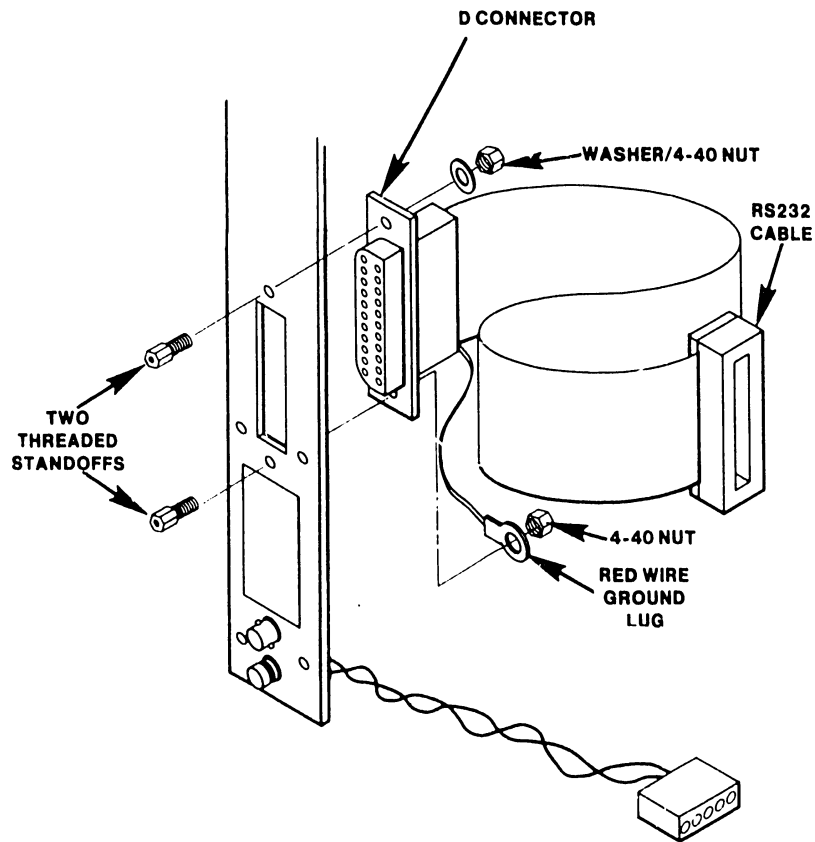

Figure 4-23 RS 232-C or RS-366 Interface Cable Installation (Installed from inner side of TC Rear Panel)
1. Position the TC rear panel as shown in Figure 4-23 (external side of TC rear panel is shown).
2. Align the interface cable "D" connector behind the panel slot labeled RS-232-C or RS-366. Position the connector such that the long edge of the "D" connector is on the right (see Figure 4-23).
3. Insert two threaded standoffs (P/N 478-0791) through the TC rear panel screw holes and the "D" connector as shown in Figure 4-23.
4. Install the red wire ground lug and washer on the standoffs (back side of "D" connector) as shown in Figure 4-23.